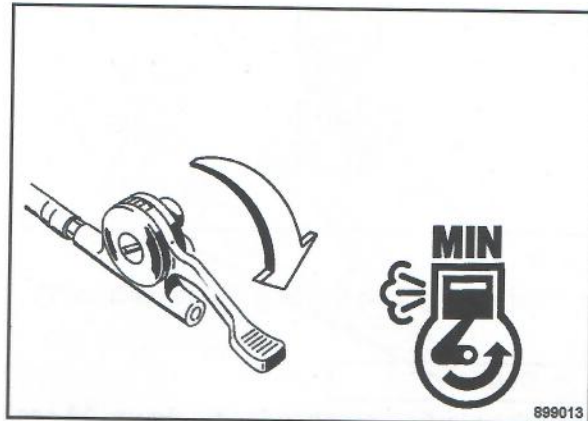

Fig. 27
- Set the throttle lever (Fig. 27) to position "MIN".